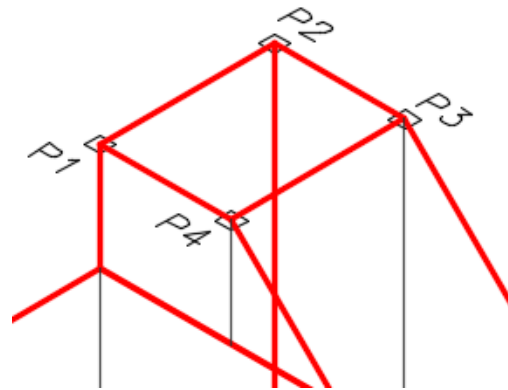

Figure Step 6
Step 6 Set layer: Surface Face as the current layer. Enter the 3DFACE command, as shown below, to place a surface face on the wireframe model. Ensure you snap to the endpoints of the wireframe lines. (Figure Step 6)